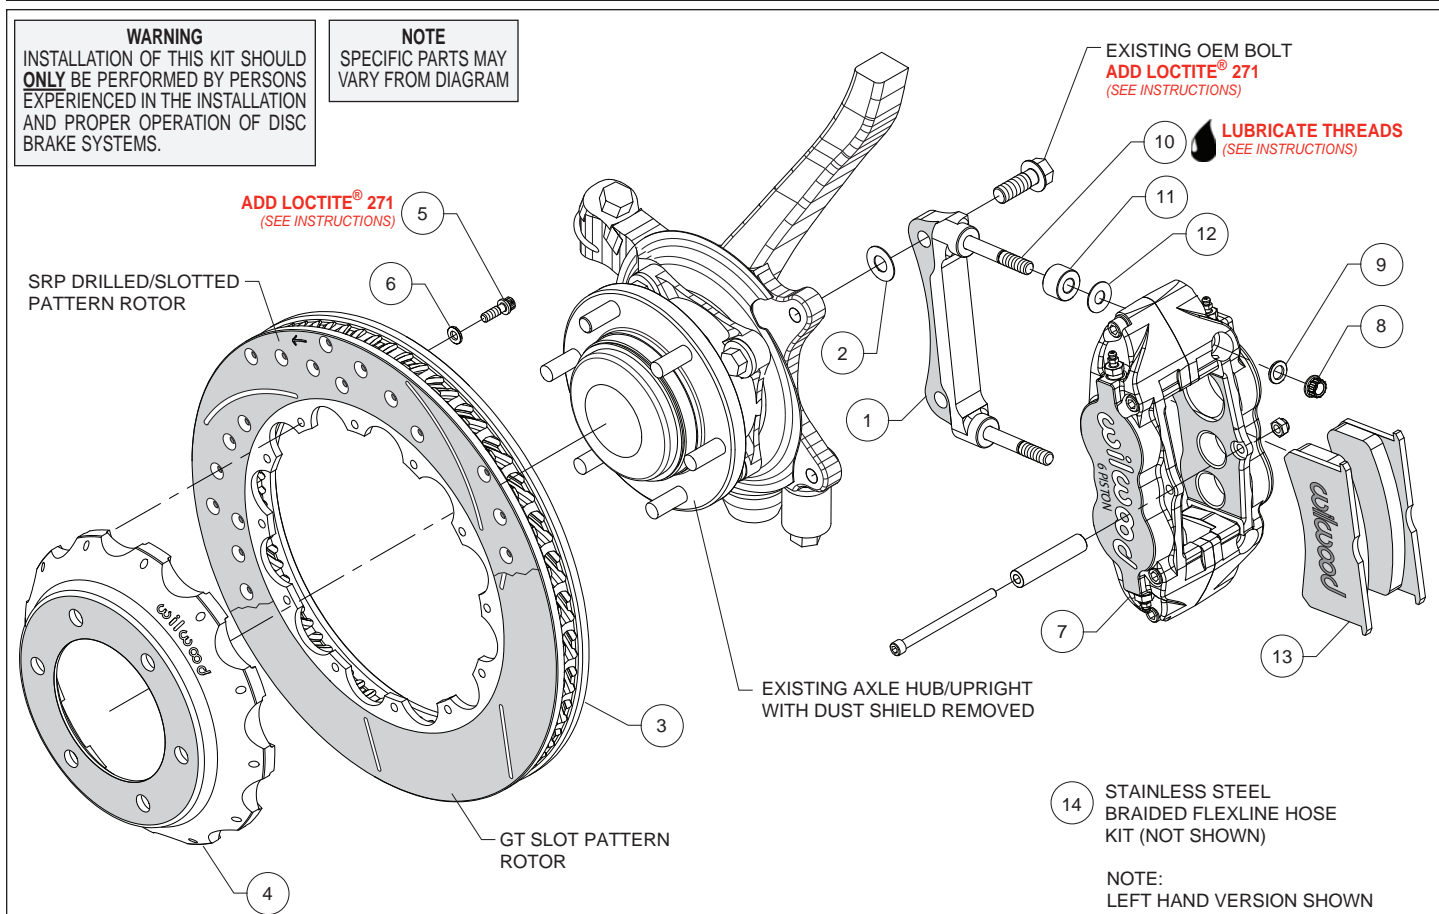
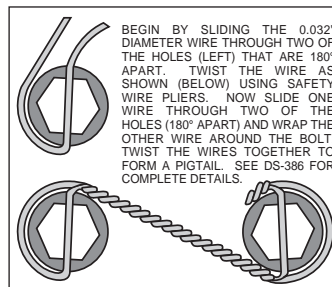

Figure 1. Typical Installation Configuration
Figure 3. Safety Wire Diagram
Assembly Instructions (numbers in parenthesis refer to the parts list and Figure 1 on the preceding pages):
- The caliper mount bracket (1) should initially be installed with clean, dry threads on the mounting bolts. Orient the bracket as shown in Figure 1 and Photo 2 and install using saved OEM mount bolts. Initially place one .033" thick shim (2) on each bolt between the bracket and upright, Figure 1. Temporarily tighten the mounting bolts. **NOTE:** The bracket must fit squarely against the mounting points on the upright. Inspect for interference from casting irregularities, machining ridges, burrs, etc. Later, after the caliper alignment has been checked, the mount bolts will be secured using red *Loctite*® 271.
- Orient the rotor (3) and the hat (4) as shown in Figure 1 and Photo 3. Attach rotor to hat using bolts (5) and washers (6). Using an alternating sequence, apply red *Loctite*® 271 to the threads, and torque to 155 **in-lbs**. For an added measure of security, the bolts may be safety wired using standard 0.032 inch diameter stainless steel safety wire as shown in Figure 3. Please refer to Wilwood's data sheet DS-386 (available at www.wilwood.com/Pdf/DataSheets/ds386.pdf) for complete safety wire installation instructions.
- NOTE:** This kit contains distinct right and left hand calipers that must be mounted in a specific direction, as described below. Lubricate the caliper mounting studs (10) with lightweight oil. Initially place one spacer (11), and one .035" thick shim (12) on each stud between the caliper and the bracket, as shown in Figure 1 and Photo 6. Mount the caliper (7) onto the bracket (1) using lock nuts (8) and washers (9), Figure 1. Ensure that the caliper is mounted so the largest pistons are at the rotor exit end of the caliper, in relation to the direction of rotor rotation. Temporarily tighten the lock nuts and view the rotor through the top opening of the caliper. The rotor should be centered in the caliper, Photo 7. If not, adjust by adding or subtracting shims (2) between the bracket and the upright. Always use the same amount of shims on each of the two mounting bolts. Once the caliper alignment is correct, remove the bracket mounting bolts one at a time, apply red *Loctite*® 271 to the threads, and torque to manufacturer's specifications.